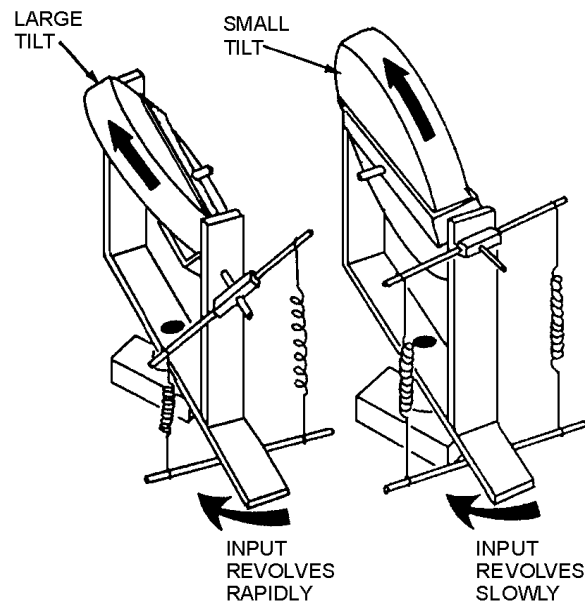

Figure 3-16.—Precession is proportional to the rate of rotation.
A. In this situation the gyro will precess twice as far before the tension on the restraining spring equals the pull on the crossarm. Precession increases when the rate of rotation increases, as shown in figure 3-16.